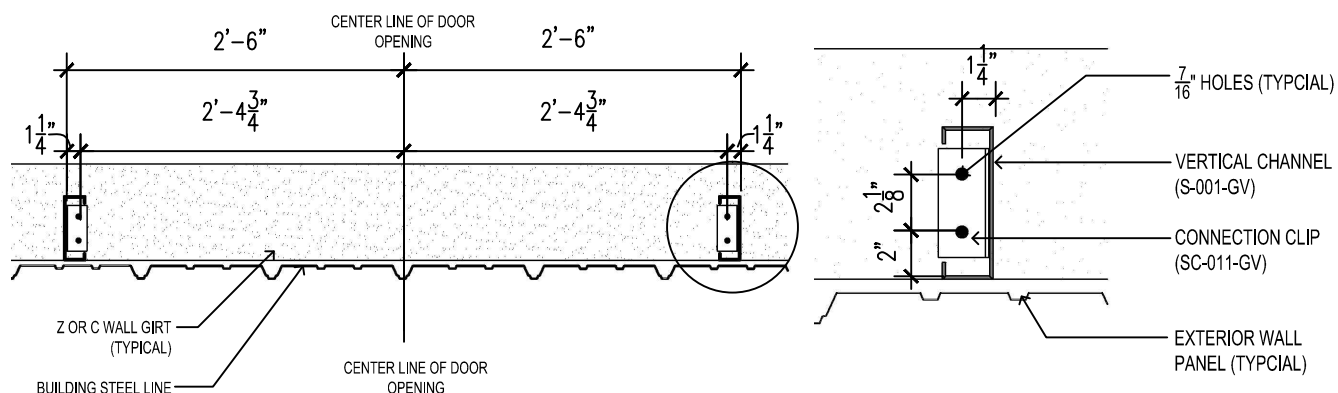

FIGURE 1
2. **Determine location of "FLS Canopy" on building.** Mark the centerline of canopy on girt above door. This usually is the same as the center of the door opening. Draw a line 2'-6" on both sides of the centerline. Locate, center punch and drill the (8) holes as dimensioned in **Figure 1**.